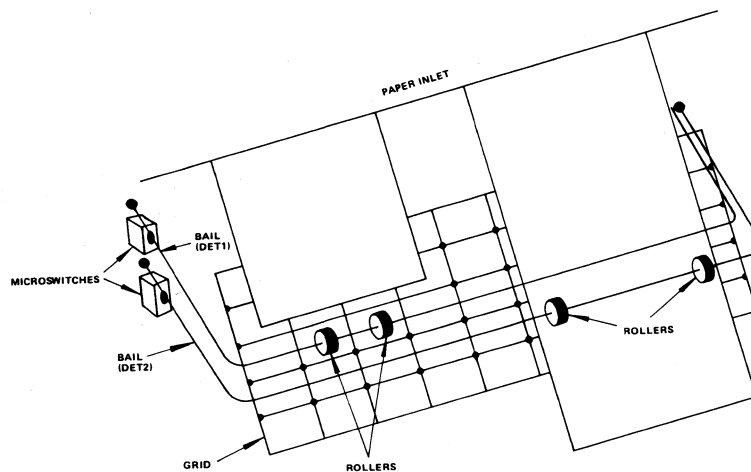

Figure 2-6. 180 cps Out of paper Detectors
The microswitches are operated by bails that are located underneath the paper inlet. As shown in figure 2-6 the presence of paper will prevent the microswitches being operated, and the absence of paper will allow the bail rollers to fall between slots in the grid and thus cause the bails to operate the microswitches. If the rollers are moved to accommodate different widths of paper they must always be aligned with the slots in the grid. If only one paper supply is to be used the DET1 or DET2 switch in the processor cabinet can be used to inhibit one of the detectors.
4. Insert the paper into the Printer Cabinet. When loading paper to a 180 cps Printer fold over the first page of the paper. The fold will hold the paper in the Printer Cabinet until it is installed in the Tractors. On a 180 cps Printer with Paper Break Detectors (see figure 2-6), ensure that the paper is located between the grid and the Detector Bails, and that the rollers are located over slots in the grid. If the upper or bottom (right) Drive is not being used its detector must be inhibited by setting the appropriate switch (DET1 or DET2 in the processor cabinet) to its UP position (refer to the description of the Paper Break/Paper Jam Detectors).